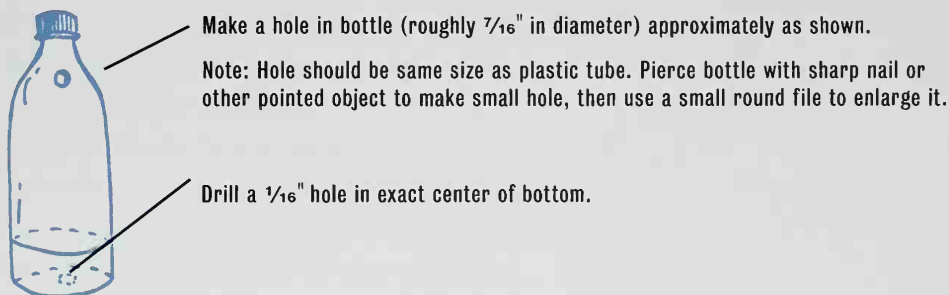

Fig. 1
1. As shown in Fig. 1, drill a $\frac{1}{16}$ " hole in the exact center of the bottom of one of the soda bottles. Also, make a $\frac{7}{16}$ " hole near the top, as shown.